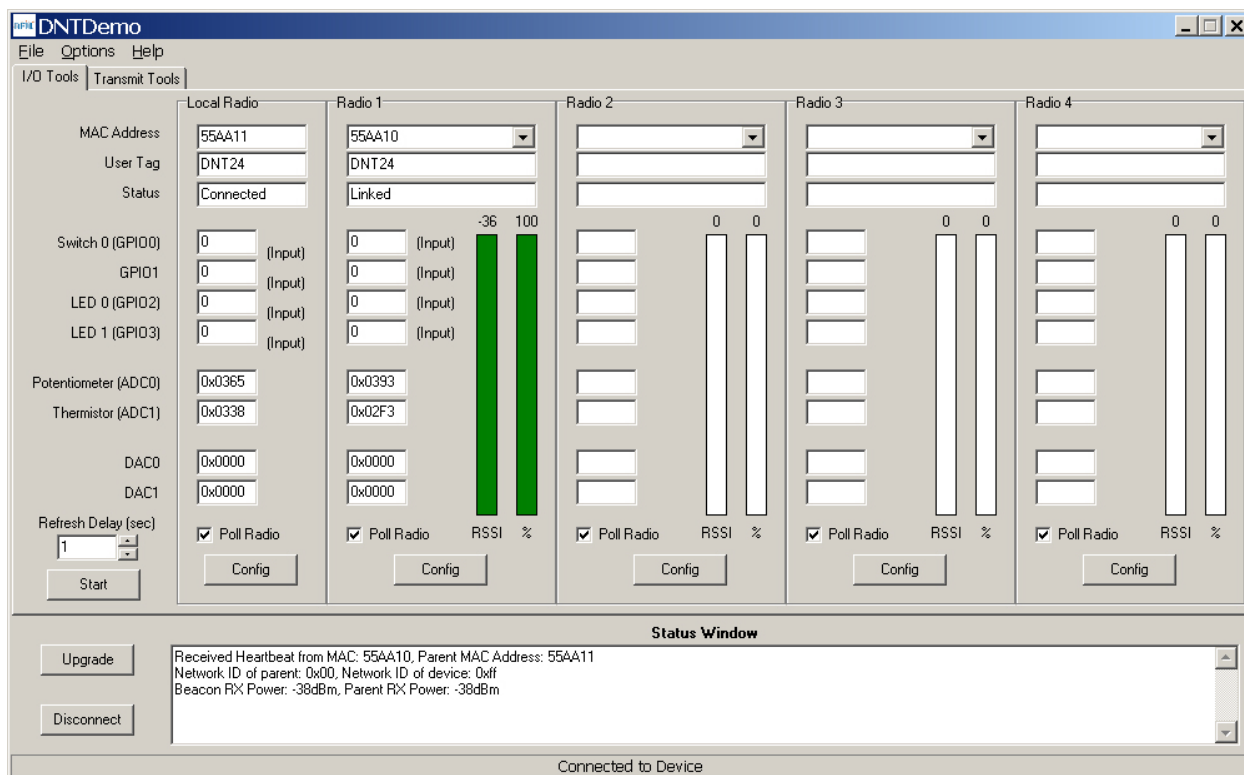

Figure 8.6.4
7. The Demo will display data on the *Remote* in the *Radio 1* column, including bar graphs of *RSSI* (signal strength) and *percent* packet success rate, as shown in Figure 8.6.4. Adjusting the pot on the *Remote* can be observed in the *Potentiometer (ADC0)* data. You can change the *Refresh* setting from the drop down menu at the bottom left. Adjusting the pot on the base can be observed in the *Potentiometer (ADC0)* data in the *Local Radio* column.